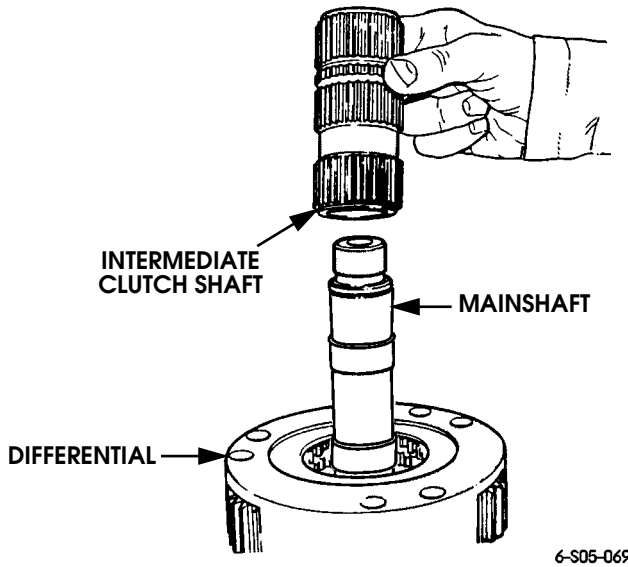

Figure 5-149: Intermediate Clutch Shaft Installation
13. Install intermediate clutch shaft. Be sure shaft is fully seated (Figure 5-149).